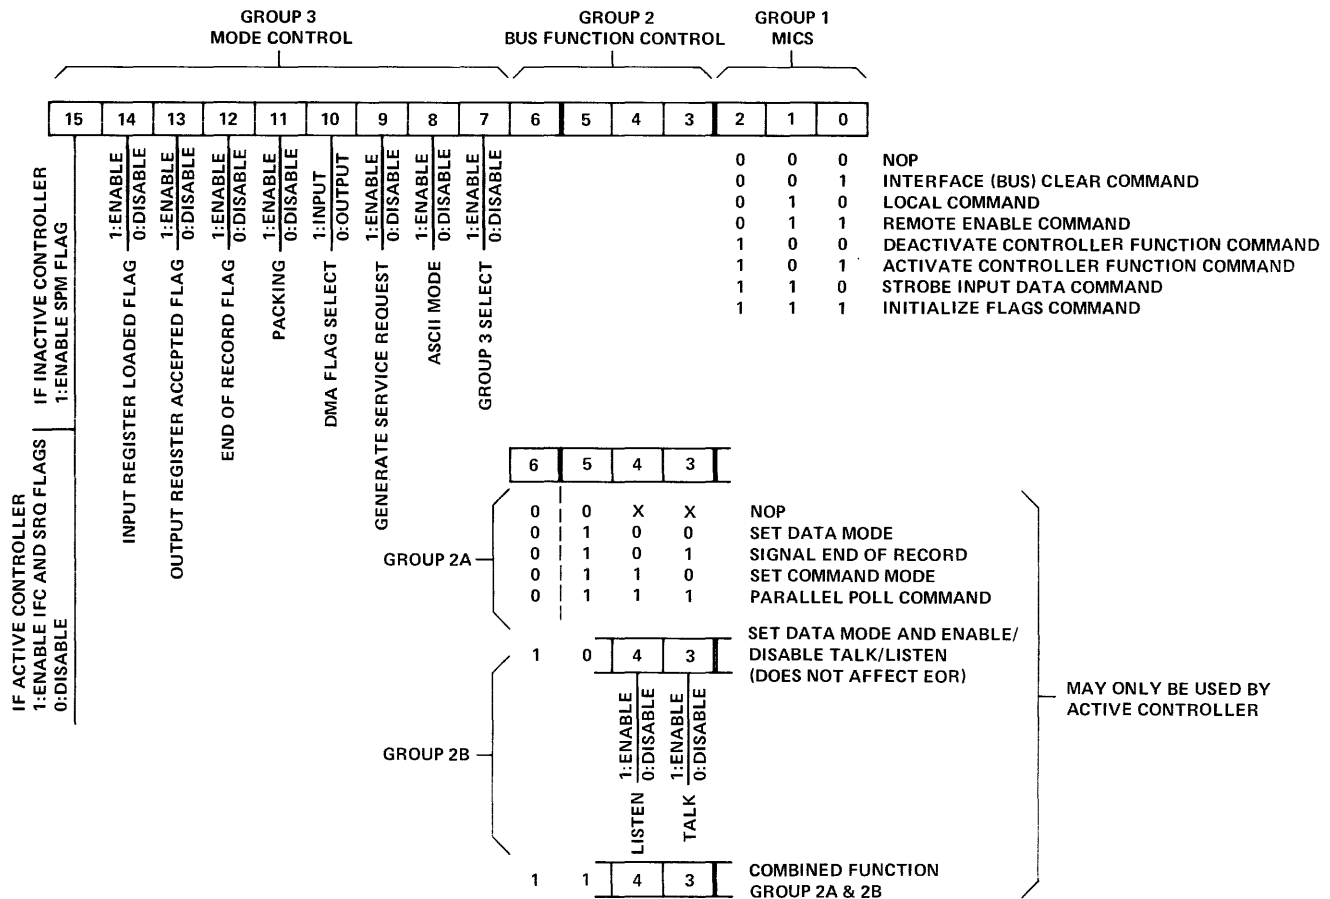

Figure 2. Control Word Format
The control word is a sixteen (16) bit word (See Fig. 2) which is output to the 59310A under program control. The control word is divided into three parts referred to as Groups 1, 2, & 3. Group 2 is further divided into two sub-groups, 2A & 2B. The effect on the 59310A of each group is independent of the other groups. Each group may be used individually or in combination. The following 59310A modes are controllable with the control word: